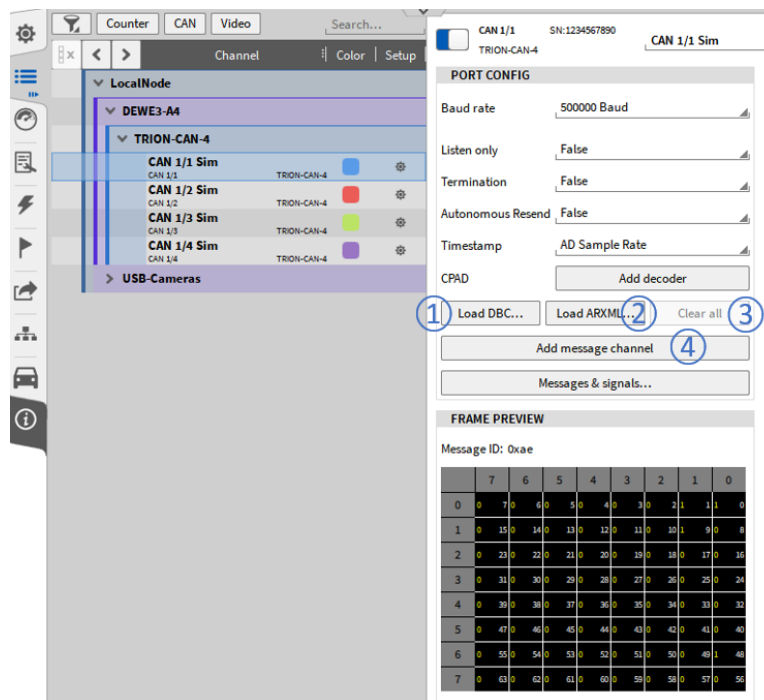

Fig. 7.204: Decoding CAN data
Thus, press *Load DBC...* (see ① in Fig. 7.204) or *Load ARXML...* (see ② in Fig. 7.204).
You can delete all decoded messages and channels by pressing the Clear All button the CAN port configuration (see ③ in Fig. 7.204).
If one or several messages available on the CAN bus should not be defined in the selected dbc- or arxml-file you can manually add them by pressing *Add message channel* (see ④ in Fig. 7.204) and defining the correct settings in the CAN message setup. More details can be found in CAN message setup.